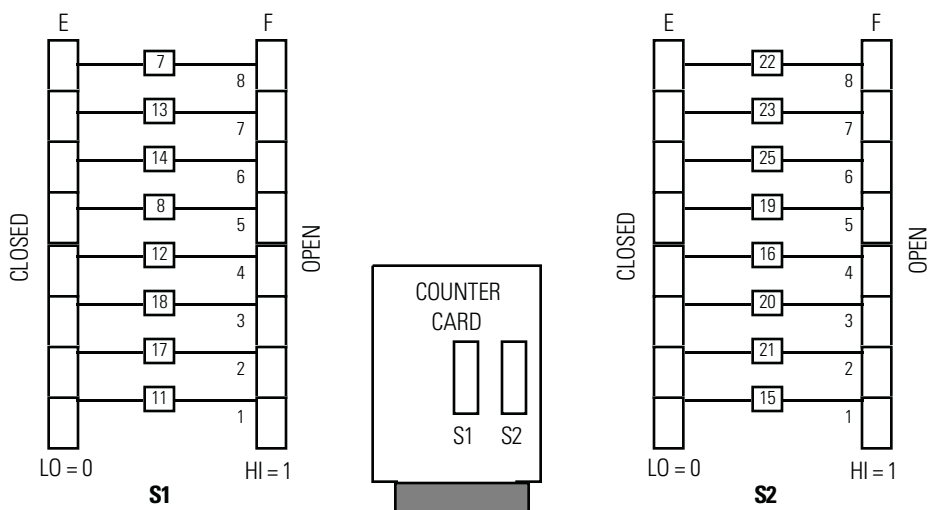

Figure 6-5
For this procedure, the receiver device must be capable of reading each of the Counter Card output bits. For example, the System CRT or LED display may be connected to each bit connection on the input module. If this is not possible, a string of LEDs must be connected to the counter card connector to read each active bit (Refer to Figure 7-1 for a typical connection). Figures 6-5 and 6-6 show DIP switches S1 and S2, along with tables for determining the switch settings.
Take the following steps (Refer to Figure 6-5, next page):
4. If a CRT or other readout device indicates a decimal value (in inches, mm, or other units) convert this value from decimal to BCD binary, and record it in row B of the diagram in Figure 6-5 (next page).